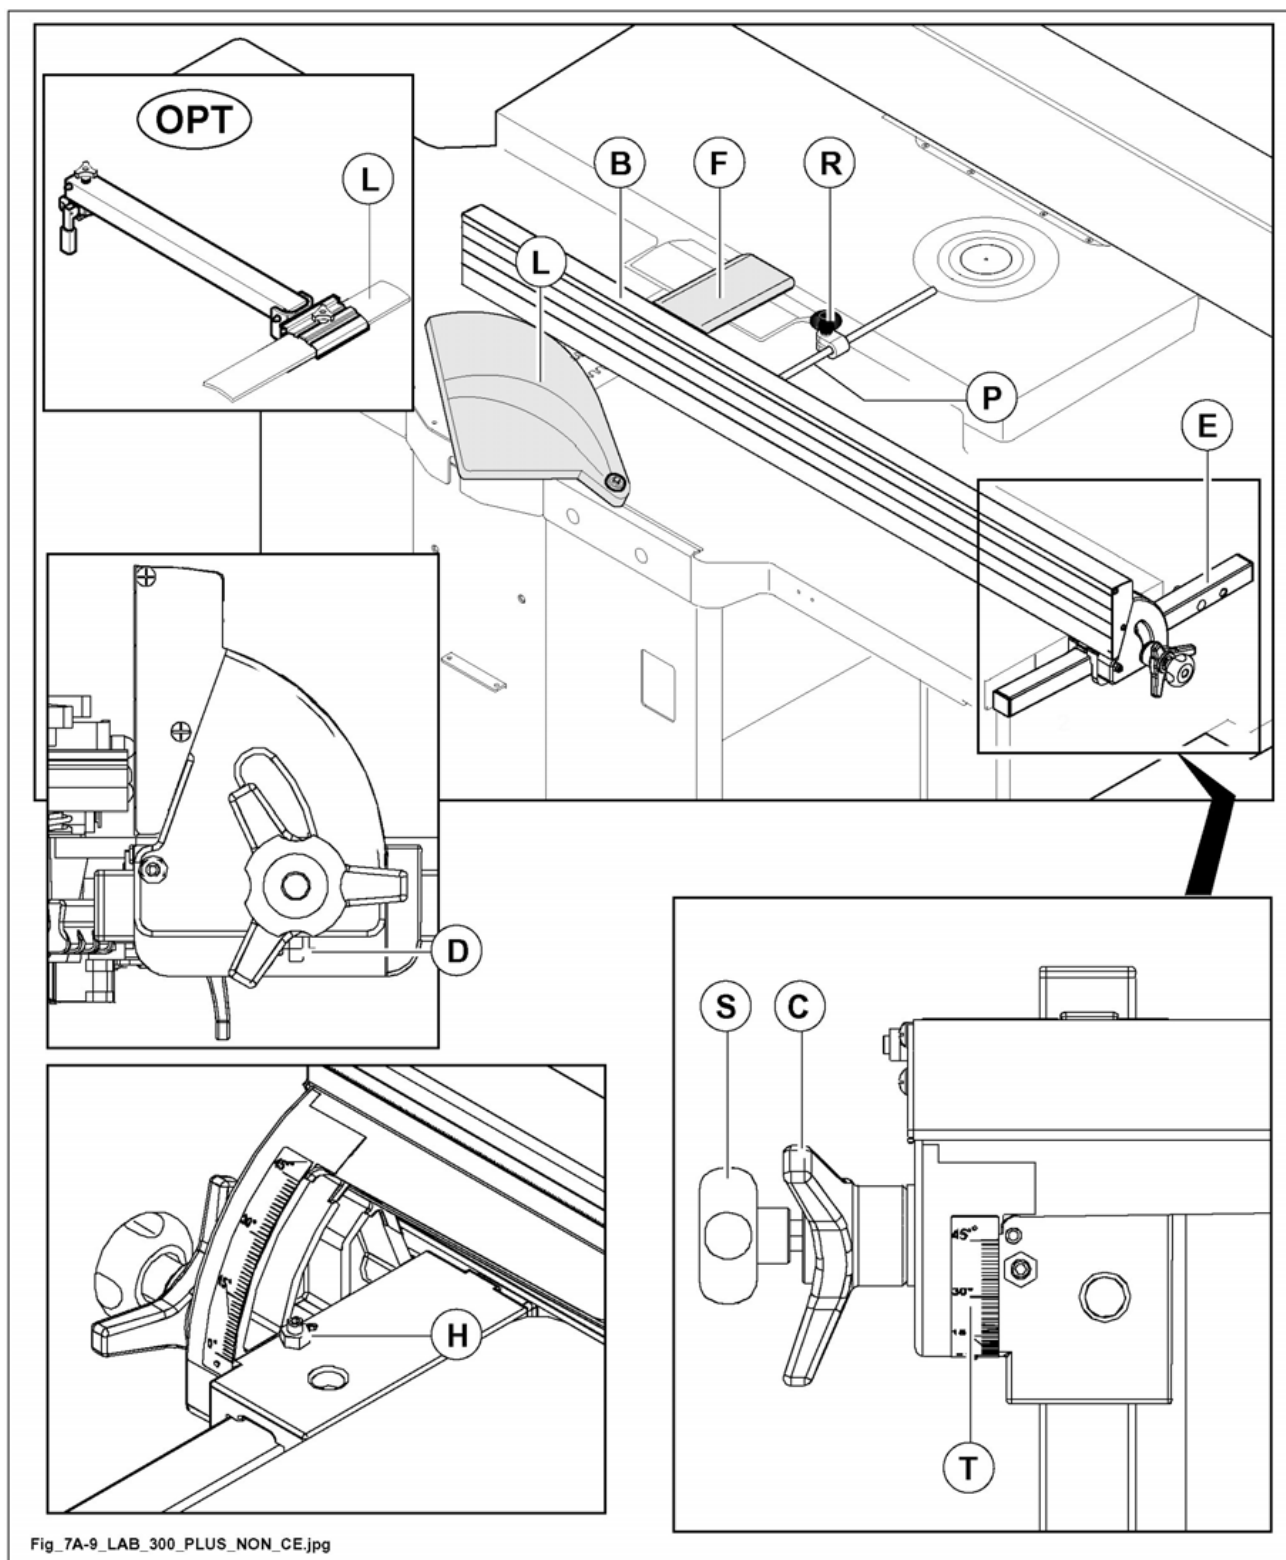

Fig. 7.9
during the machining, the protections (F fig. 7.9) and (L fig. 7.9) must always be positioned on the cutterblock.
- Position the planing fence (B fig. 7.9) at the desired point and tighten the knob (S fig. 7.9).
- To angle the fence from 90° to 45° loosen the locking device (C fig. 7.9) and adjust the fence, observing the value on the index (T fig. 7.9).
- As soon as the adjustment has been carried out, bring the fence lock (P fig. 7.9) to the stop on the surface unit fence (B fig. 7.9) and tighten knob (R fig. 7.9).
fence (B fig. 7.9) may be tilted from 90° to 45° and in any intermediate position.
For eventual corrections of the stops for extreme positions (90° and 45°) operate on screw and counternut (D fig. 7.9) for 90° position and on screw and counternut (H fig. 7.9) for 45° tilting.
check perfect cleanage of the sliding rod (E fig. 7.9).